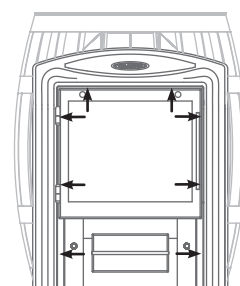

Figure 5. Door disassembling under installation of the stove «Vitra»
1. Unscrew self-tappers 8 ps. that fixes a door with a frame to a fuel canal and remove a door; (see Figure 5)